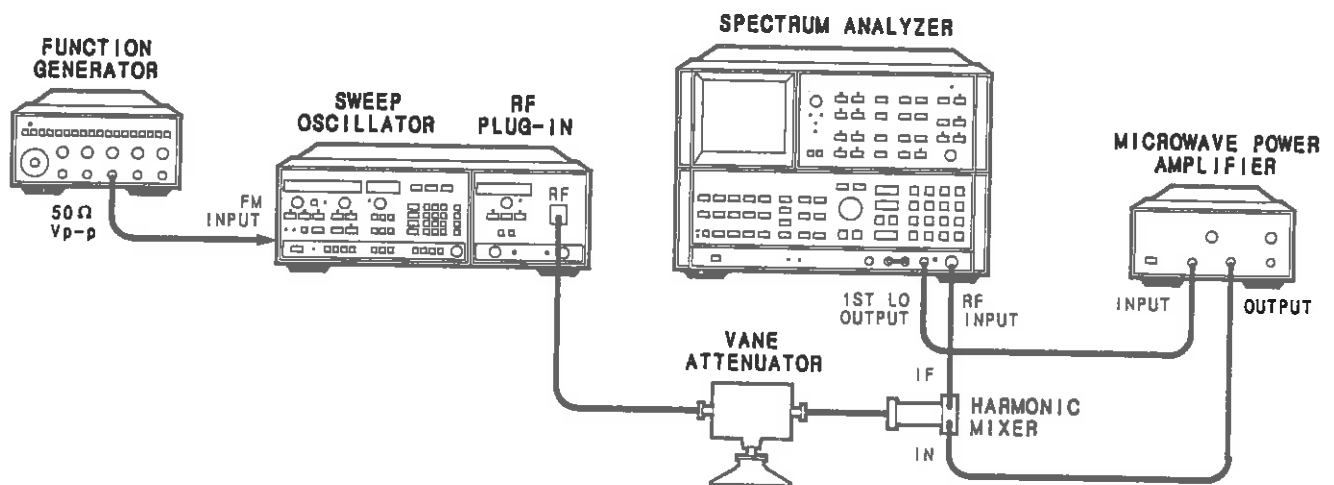

Figure 4-13. External Frequency Modulation Test Setup
1. Ensure that the RF plug-in modulation sensitivity is set to  $-20$  MHz/Volt and the modulation coupling is set to DC. See section 3 for information on setting the configuration switch. Connect the equipment as shown in figure 4-13. Set the vane attenuator to 20 dB.